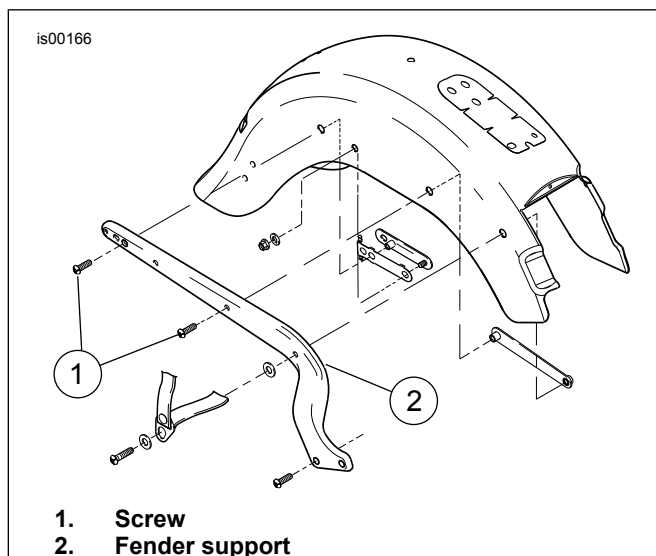
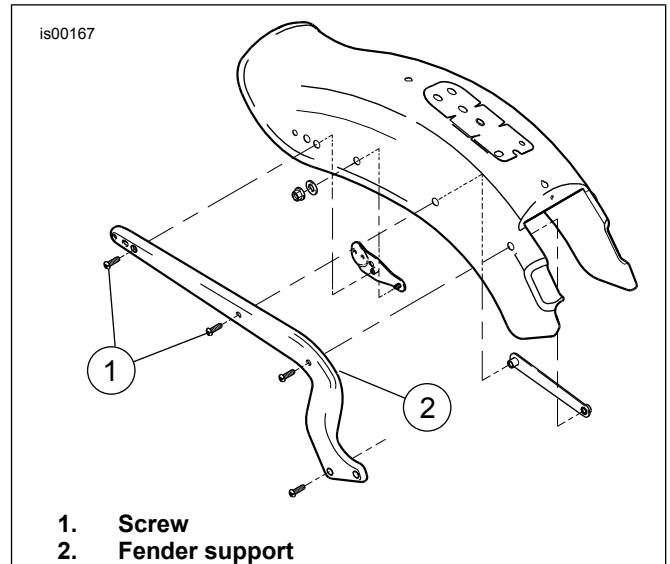

Figure 3. Fender Support Hardware (2006 FLSTF Shown)
Figure 4. Fender Support Hardware (2006 FXST/S/B Shown)
1. See Figure 3 and Figure 4. Remove and discard stock screws (1) from fender support (2).